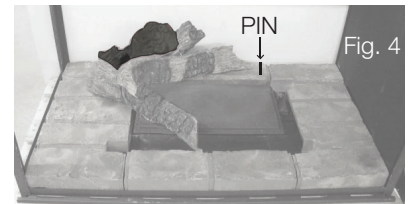

Fig. 4
- Place log #4 onto the pin located in log #2 and let it rest on log #2, as shown in Figure 4 and in the left side view. Place one pin into the left side hearth pad **(FIG.4)**.